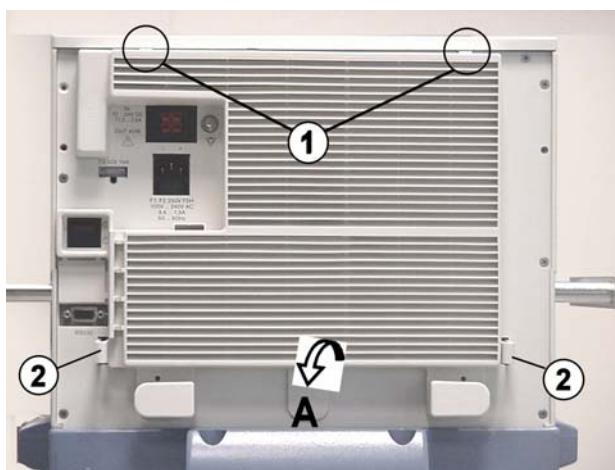

Fig. 31 View of unit rear; pins and filter cover
3. Slot the two pins (Fig. 31/1) on the top of the filter cover into the recesses in the rear panel, swing the filter cover down towards **A** and press the catches (Fig. 31/2) into the rear panel until they lock in place.